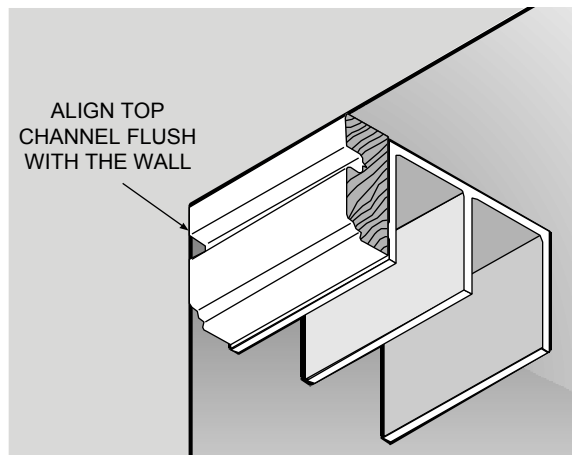

Figure 1
- C. When cut to proper length, hold the Top Channel (#2) up to the top front of closet opening making sure that the front of the Oak Fascia on the Top Channel (#2) is flush with outside walls (See Figure 1). Mark the installation holes through the pre-drilled holes in the Top Channel (#2).